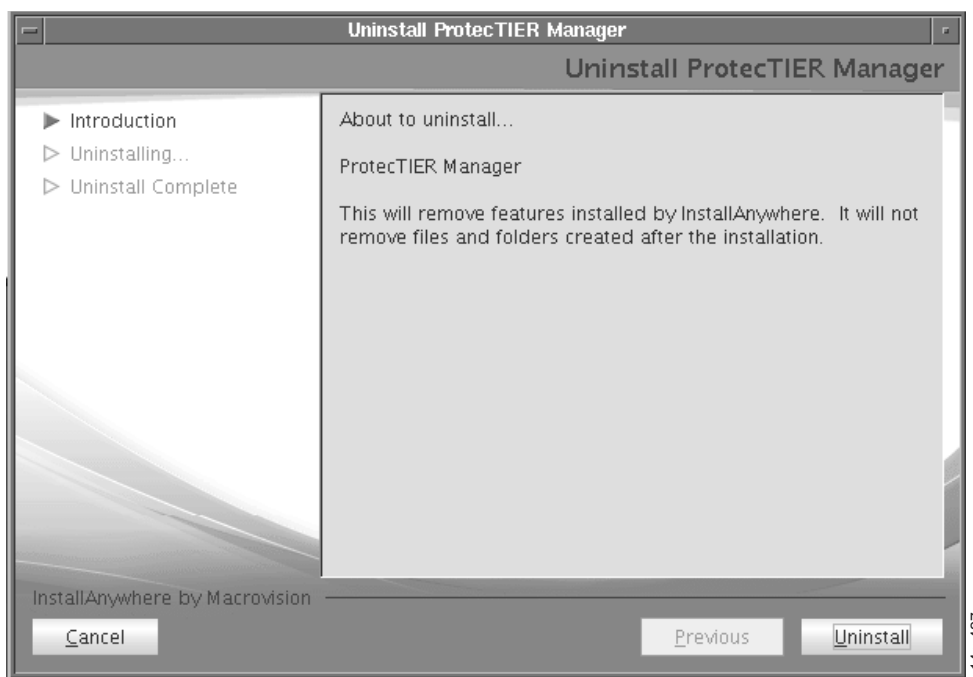

Figure 92. Uninstall ProtecTIER Manager Window
4. The uninstall program launches and you see the Uninstall ProtecTIER Manager window that is shown in Figure 92. Click **Uninstall**.